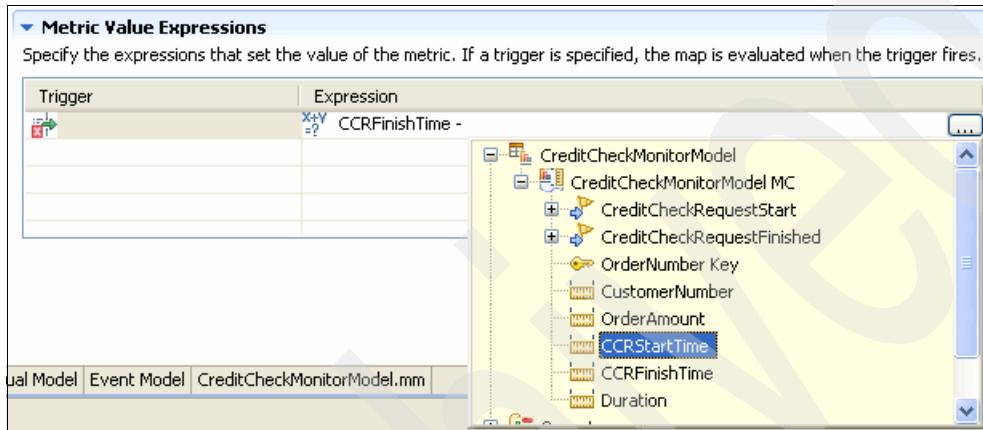

Figure 10-61 Using the Metric Value Expression builder to calculate a value
- ii. Press Ctrl+Spacebar again to prompt for the expression builder (Figure 10-61). Expand **CreditCheckMonitorModel** → **CreditCheckMonitorModel MC** and select **CCRStartTime**.